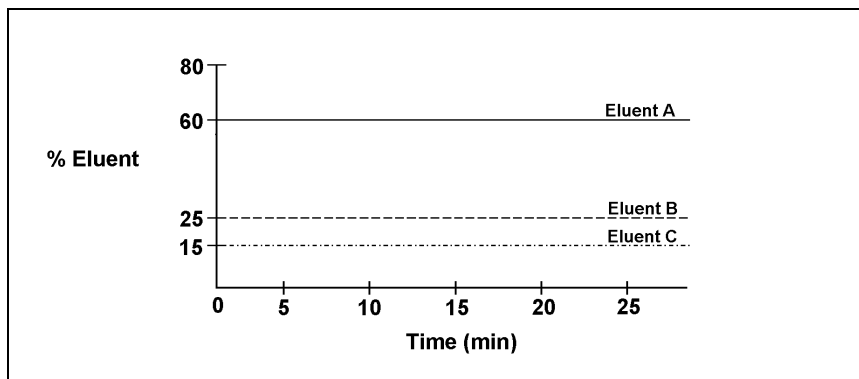
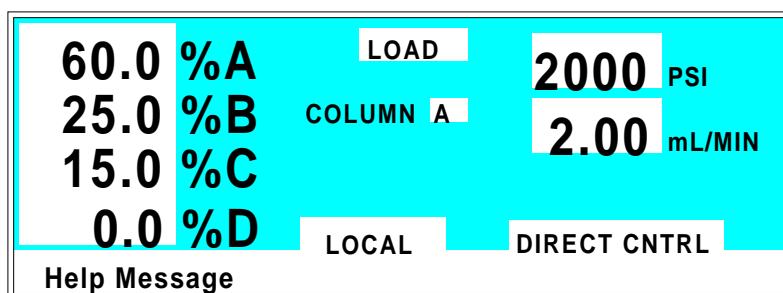

Figure 3-2. Isocratic Run Profile
Figure 3-3. Main Screen: Running Under Direct Control
Specify an isocratic mixture of 60% eluent A, 25% eluent B, and 15% eluent C to be pumped at 2.0 mL/min. Figure 3-2 illustrates the isocratic profile for this example. Figure 3-3 illustrates the **MAIN** screen as it will appear when the example is set up.
2. Check that the operating fields are set to **LOCAL** and **DIRECT CNTRL** (see Figure 3-3). If **REMOTE** and/or **METHOD** are currently set, move the cursor to the appropriate field; press **Select Δ** or **Select ∇** to toggle the value, and press **Enter** or a cursor arrow button.
Specify an isocratic mixture of 60% eluent A, 25% eluent B, and 15% eluent C to be pumped at 2.0 mL/min. Figure 3-2 illustrates the isocratic profile for this example.